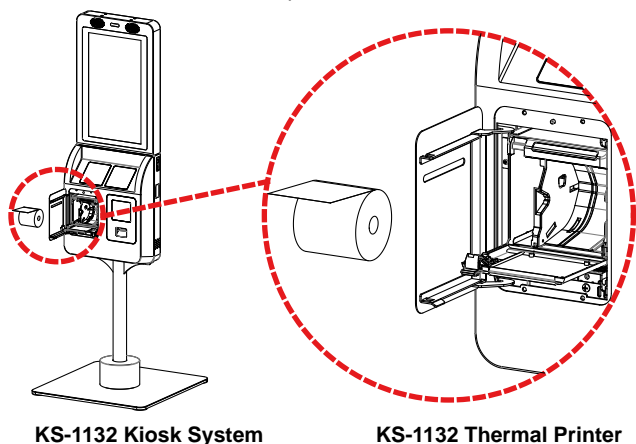

Figure 2-4. Install the KS-1132 Printer Paper Roll
Step 4. Pull out a small paper slip from the start of the paper roll and drop the paper roll into the thermal printer to complete. See Figure 2-4.